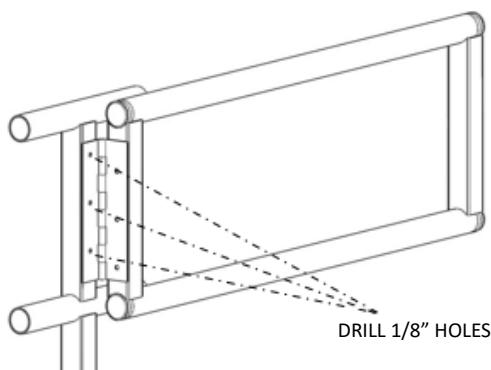
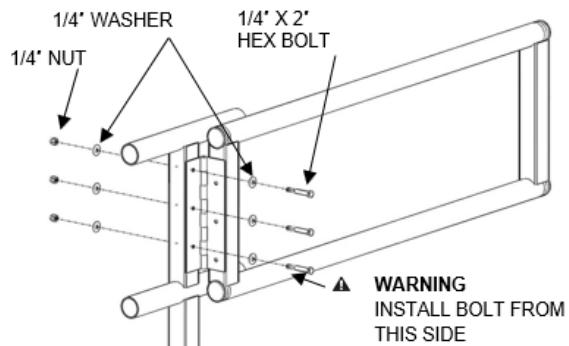

FIG. 7.15
FIG. 7.16
- 7.8.4. Using the holes in the hinge as a template, mark locations with a pencil, then drill three 1/8" holes through both sides of the vertical handrail tube (FIG. 7.15). Install fasteners through hinge and vertical handrail post and secure as shown (FIG. 7.16).